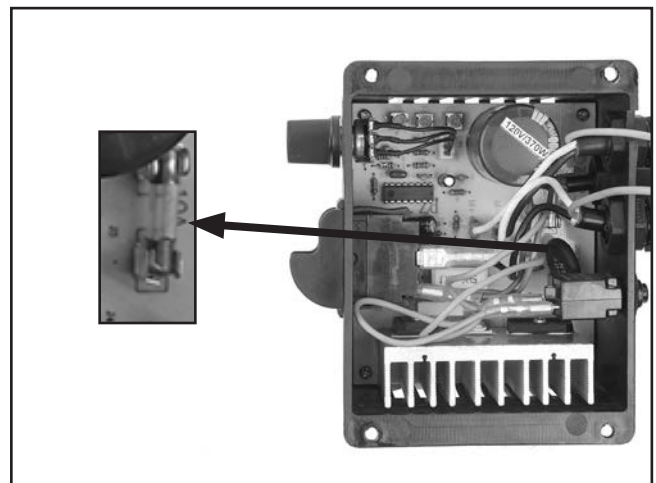

Figure 55. 10A fuse location on circuit board.
3. Carefully remove fuse, then insert new fuse shown in **Figure 55**.